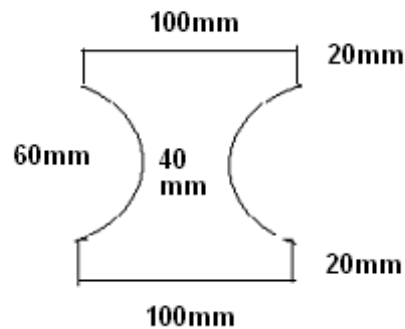

Figure 5
5. A steel section shown in figure 5 is subjected to a shear force of 80KN. Determine shear stress at the important points and sketch the shear distribution across the section. [16]